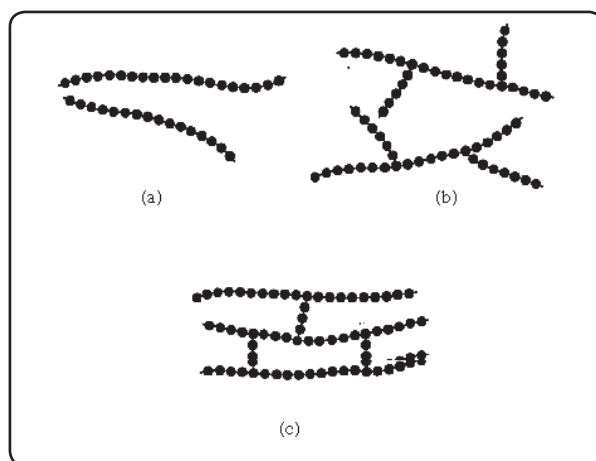

Fig. 15.1 : Different chain configurations of polymers
15.2.2 Classification of polymers on the basis of structure : Depending upon how the monomers are linked together, that is, the chain configuration, polymers are classified in three general types : a. linear b. branched and c. three dimensional cross - linked polymers (Fig. 15.1). The nature of linking the monomers depends upon the nature and number of functional groups in them.
bifunctional monomers or alkenes. (Fig. 15.1(a)). For example : PVC, high density polythene.
b. Branched chain polymers : The second most common arrangement is that of branched chain. Monomer having 3 functional groups or already having side chains give rise to branched chain polymers. (Fig. 15.1 (b)). For example : low density polythene.
c. Cross-linked polymers : Third type of arrangement is said to be cross linked or network polymers where cross links are produced between linear chains as shown in Fig. 15.1 (c). Cross linking results from polyfunctional monomers. For example, bakelite, melamine.